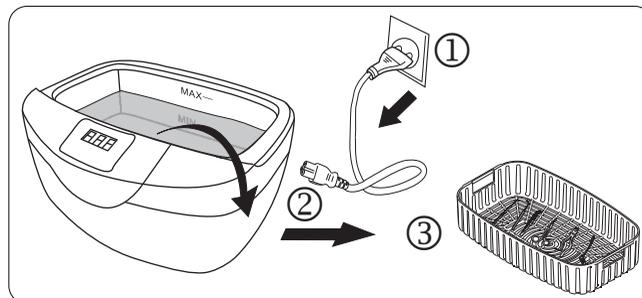

Fig. 16
- 8► At the end of the cycle the display will show 000 and the cavitation process will stop automatically. Unplug the equipment and open the lid. (Fig. 16).